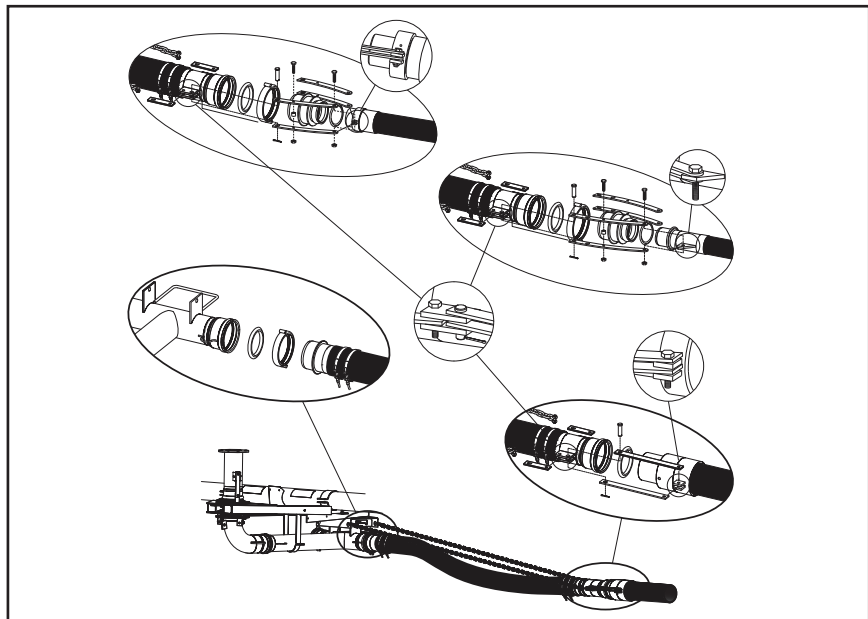

Figure 44-2 Swing-Around Tee Inlet Hose Couplers, Soft hose and Chains
- Swing-Around Tee Inlet hose couplers are secured to the inlet with a circle lock ring. See figure 44-2.
- Soft hose requires the use of chains to pull the poly hose. See figure 44-2.
- The Swing-Around Tee Inlet uses soft hose on the inlet end of the hose. See figure 44-2.